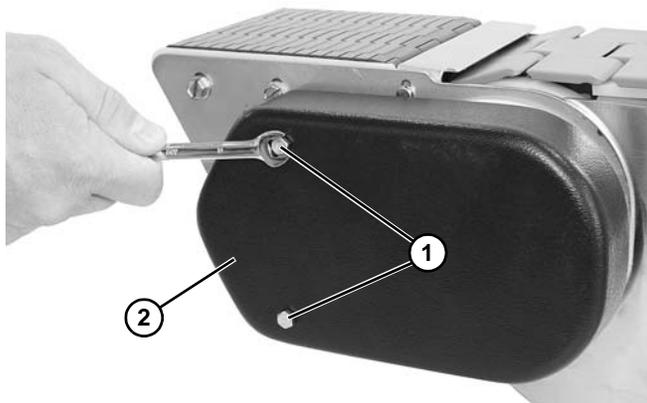

Figure 58
1. Remove two hex head screws (**Figure 58, item 1**) and cover (**Figure 58, item 2**) from power transfer assembly.